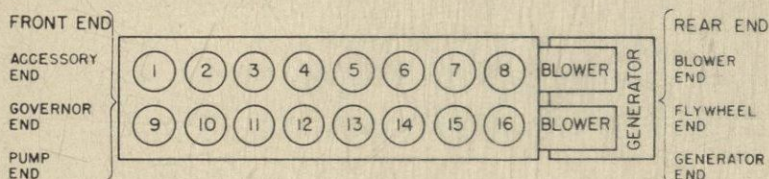

Fig. 16
23. The generator is considered as being at the rear end of a Diesel engine. The fly-wheel and blowers are at the generator end. Various accessories, such as the governor, pump, etc., may be at the front end of the engine or at some other suitable location. When a locomotive, such as a switcher, has but a single power unit, the generator of the power unit usually is toward the cab of the locomotive. The right and left sides of the engine are located from the generator end, looking toward the front of the *engine*. Cylinders on the right side of a V-type engine (not necessarily on the right side of the locomotive) are numbered from one to six or eight, beginning at the forward end; on the other side, they are numbered from seven to twelve or from nine to sixteen, also beginning at the forward end. This marking is shown in Fig. 16 for the engines of the locomotive shown in Fig. 11.